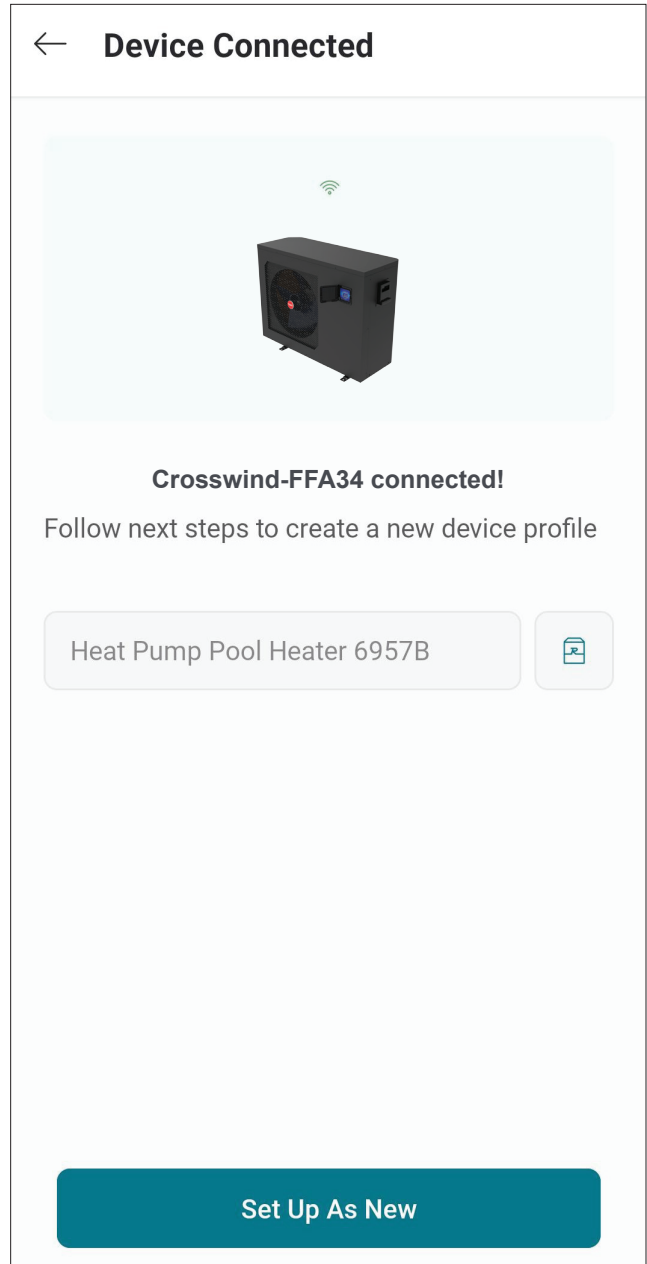

Figure 54. Name Your Unit
1. Your device is now connected to Wi-Fi. You can change the name of your device here. See **Figure 54**.